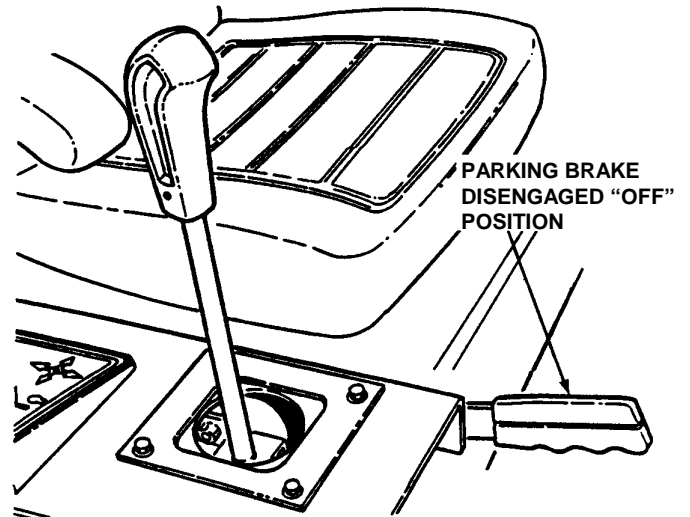

FIGURE 3.8
2. Release parking brake by moving brake lever down to the "OFF" position. See Figure. 3.8.